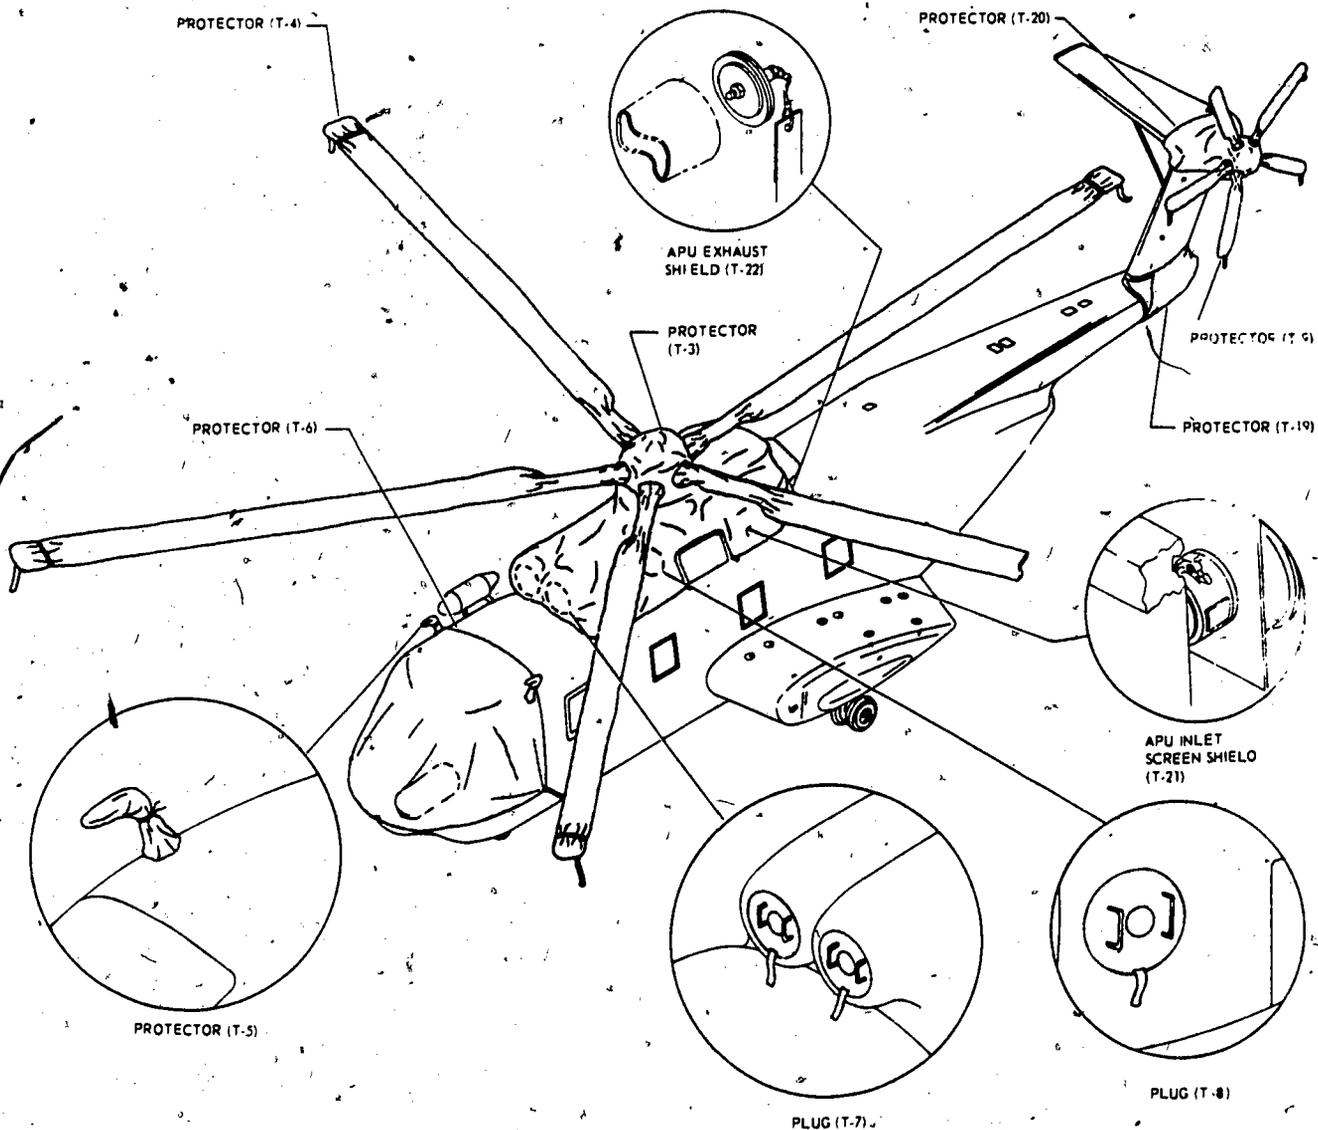

Figure 4. - Protective covers.
- 3. Protective covers and tiedown equipment - REMOVED. (See figure 4.)